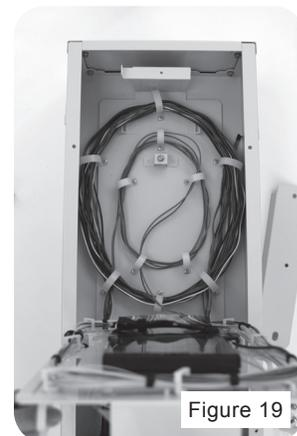

Figure 19
3. With the interconnect tray installed and in the down position finish routing any fiber slack, that may have been required to complete the splicing process, through the fiber management rings for storage. (Figure 19)